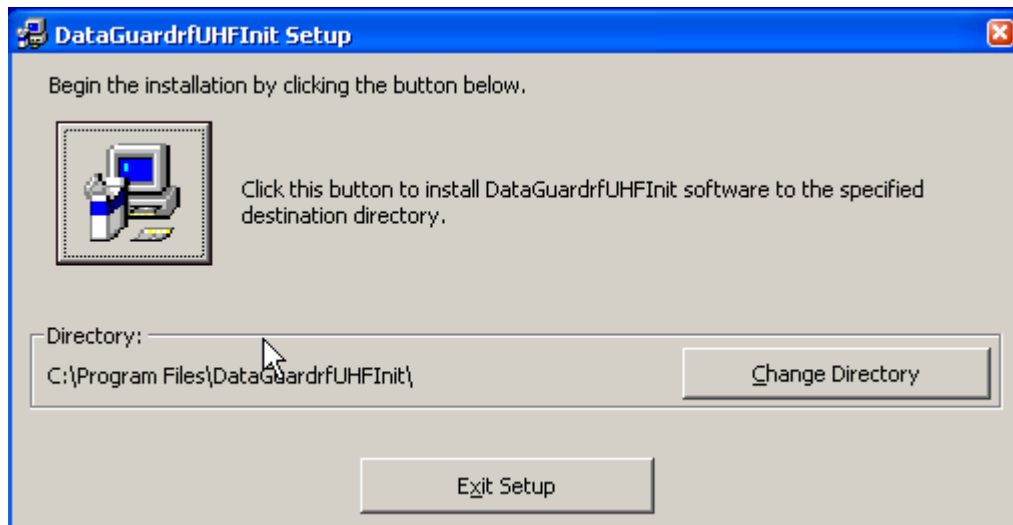

Figure 2
- H. Select the installation folder where the DataGuard rf program will appear (Figure 2). If you prefer the default Program Files folder, click the large button with the install icon. If you prefer a different folder from the default folder, select that folder by clicking the **Change Directory** button.